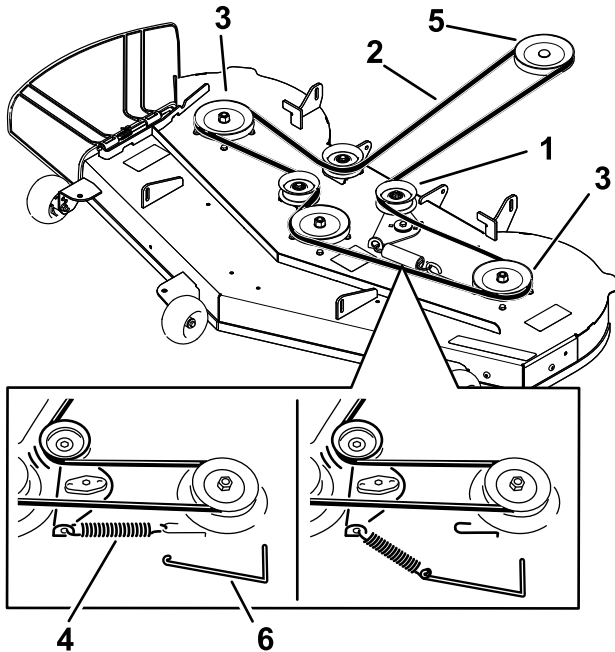

Figure 48
5. Using a spring-removal tool (Toro Part No. 92-5771), remove the idler spring from the deck hook to remove tension on the idler pulley, and roll the belt off the pulleys (Figure 48).
6. Route the new belt around the engine pulley and mower pulleys (Figure 48).
7. Using a spring-removal tool (Toro Part No. 92-5771), install the idler spring over the deck hook and place tension on the idler pulley and the mower belt (Figure 48).